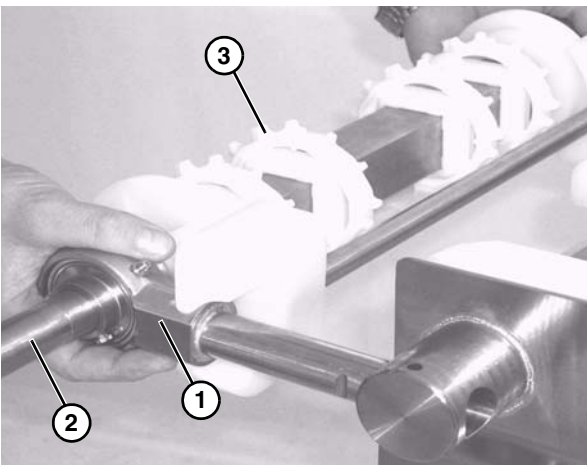

Figure 65
6. Slide the drive tail assembly out of the take up blocks (**Figure 65**).
7. Slide the motor support bracket (**Figure 65**, item 1) off the drive spindle (**Figure 65**, item 2).
8. Remove the sprockets (**Figure 65**, item 3).